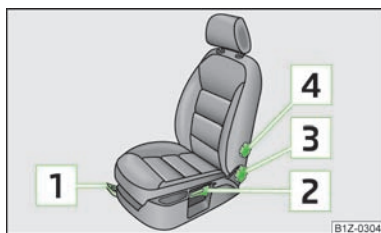

Fig. 40
- > Pull the lever » Fig. 40 up and push the seat into the desired position.
- > To lift the seat, pull or pump the lever » Fig. 40 upwards.
- > To adjust the angle of the backrest, relieve any pressure from the seat backrest (do not lean on it) and turn the handwheel » Fig. 40.
- > Turn the hand wheel » Fig. 40 until the most comfortable curvature of the lumbar support is achieved.